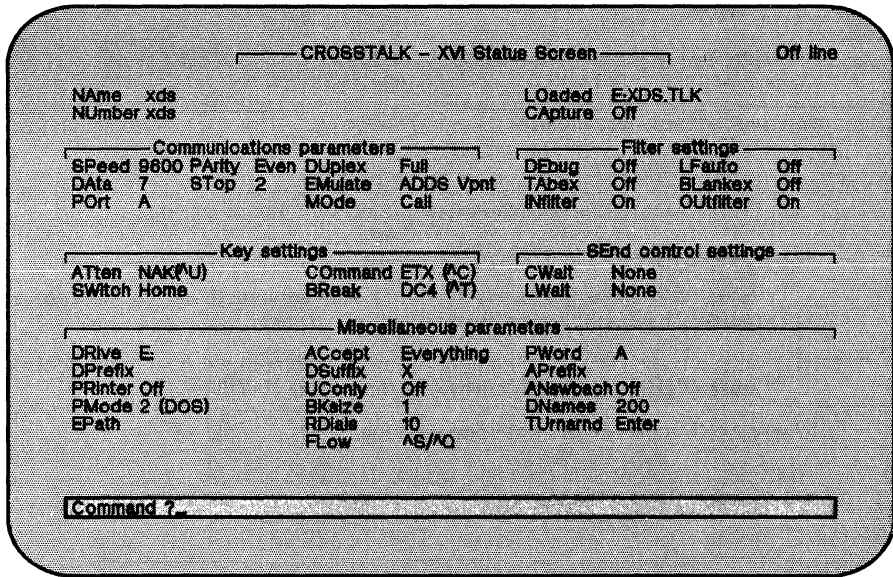

Figure 2-6. Second CROSSTALK Screen
- 3) At this point, the display changes to Figure 2-6.